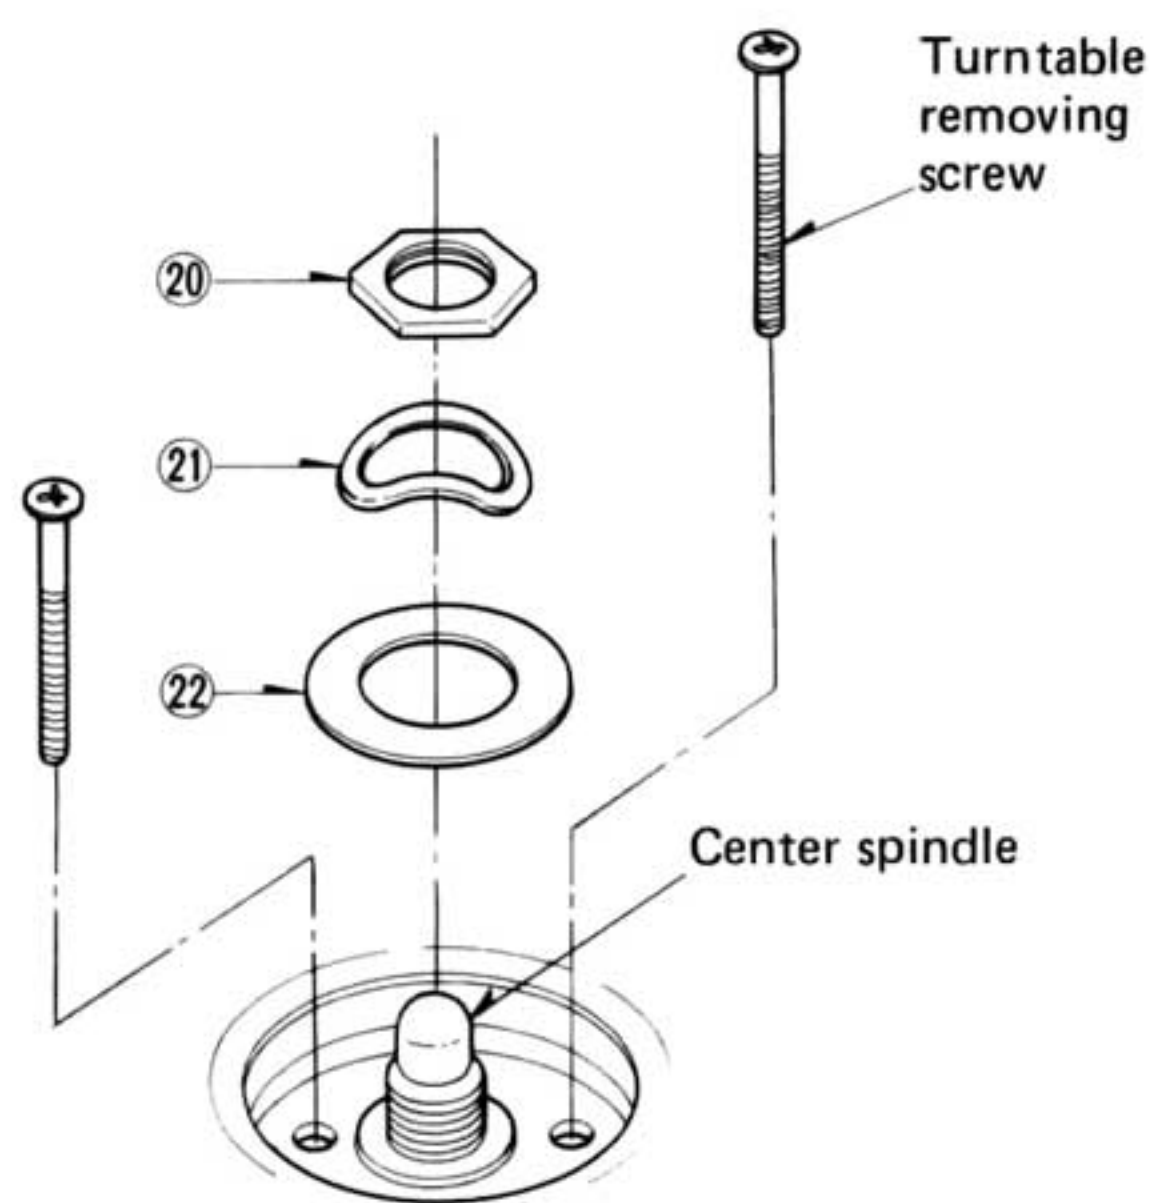

Fig. 1
2. Remove the nut ⑳, washers ㉑ and ㉒ used to secure the turntable. (See Fig. 1.)
3. Set 3mm screw into the two holes provided near the center spindle of the turntable, and then lift the screws with both hands to remove the turntable. (See Fig. 1.)